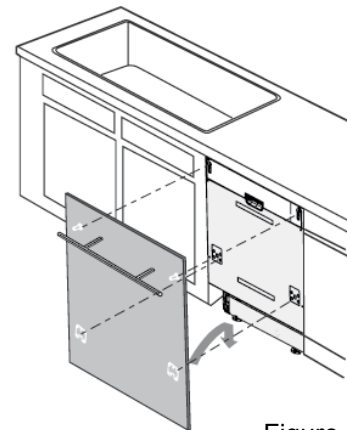

Figure 16
- 2) Put the hook into the slot of the outer door, for the positioning, see the figure 16.